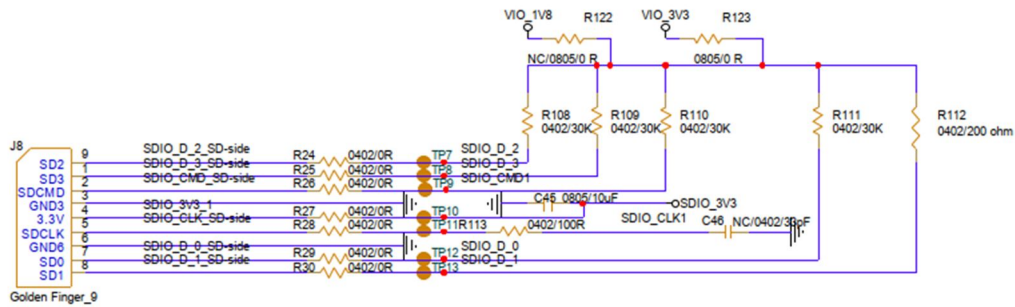

Figure2. WiFi verification connection interface to Host SDIO as using SDIO2.0
- ❖ Refer to Figure2 SDIO pin definition connects the J8 interface of AP5875SA evaluation board to Host SDIO control interface.